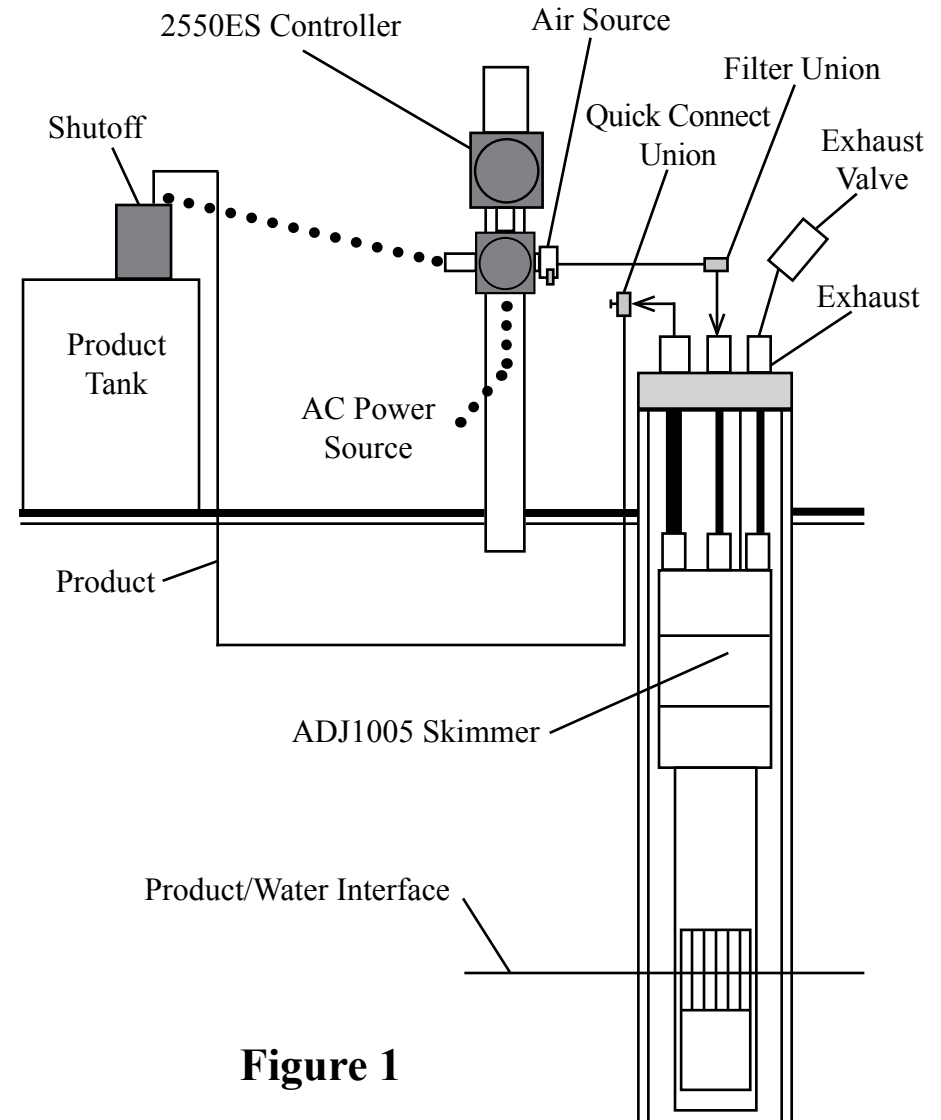
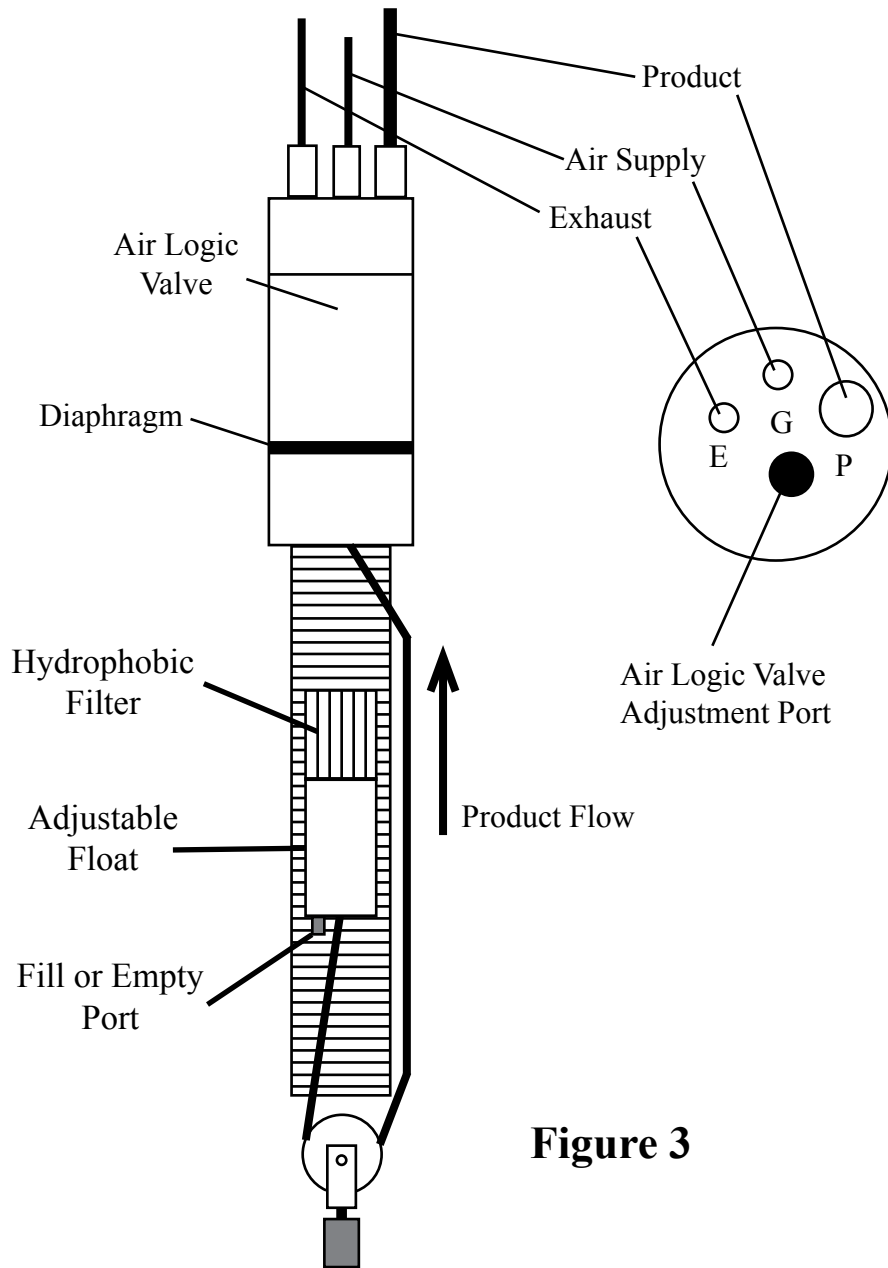

Figure 1
Figure 3
The system (Figures 1 and 2) relates to floating hydrocarbon recovery in wells four inches in diameter and larger. This system includes: an intrinsically safe ADJ1005 pneumatic Smart Skimmer, with an adjustable float (Figure 3), which removes only product to a sheen up to 200 feet deep; and a two function electronic Class I Controller Model 2550ES for hazardous locations which operates the skimmer intermittently, and has a high level tank shutoff.
STEP 7. Position the skimmer and well cap on the ground near the well. **NOTE:** If the skimmer is over 60 feet deep, use a vented design skimmer. Cut a length of 3/8" OD air supply tubing to cover the distance from the top of the well down to water/product interface, plus 5 feet. Slide enough tubing through the well cap and attach the end of the tubing to the top of the skimmer tube fitting labeled "G" (Figure 3). If the product thickness is greater than 1 foot, position the skimmer's "Black Reference Line" on skimmer well screen 1 foot below top of product. If the product thickness is less than 1 foot, position the skimmer's "Black Reference Line" on skimmer well screen at the water/product interface.
STEP 8. Cut a length of 1/2" OD product tubing same length as the air supply line. Install 1/2" OD product tubing through the well cap tube fitting labeled "P" (Figure 3). Slide enough tubing through the well cap and attach the end of the tubing to the top of the skimmer tube fitting labeled "P". **CAUTION:** Do not kink the tubing.